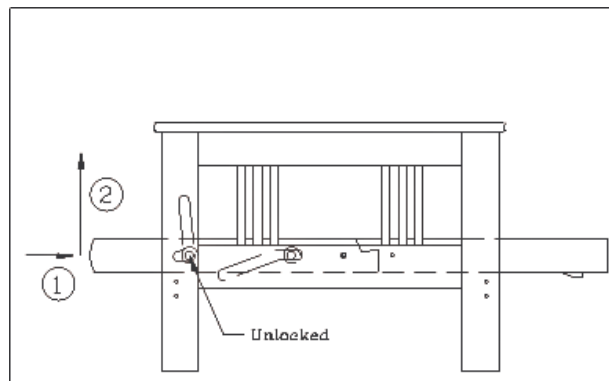

Figure 3
- 1) While standing in back of sofa-bed convertible, push the backrest forward (about an inch), until it's out of the lock position (Figure 3). This is very important! You could possibly damage the frame if you try to convert it into upright position when it is locked. Manufacture is not responsible for damage caused by converting while locked.